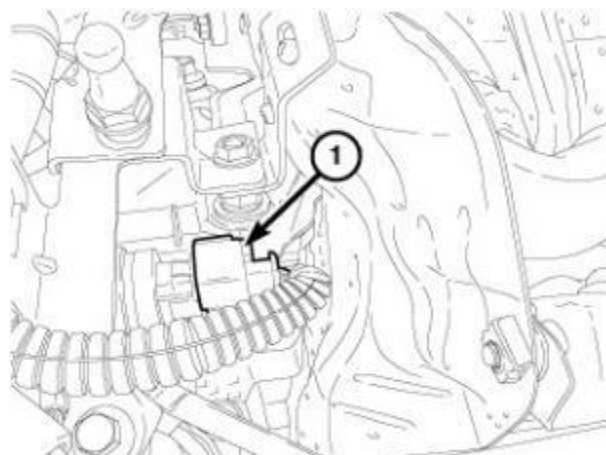

Figure 43 – Fuel Rail Pressure Sensor Connector
39. Disconnect the right fuel rail pressure sensor wire harness connector (1) (Figure 43).